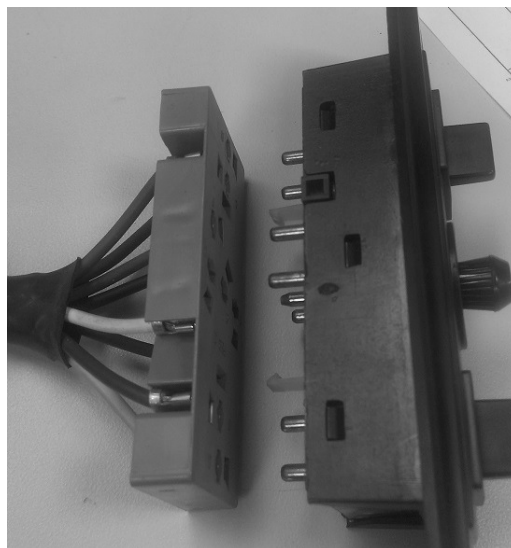

Fig. 8
1. To connect the six way power unit to the manual control switch panel, connect the gray connecting board to the back of the control panel. (See Fig. 8) The connecting board will only plug in one way and will snap tight when connected.